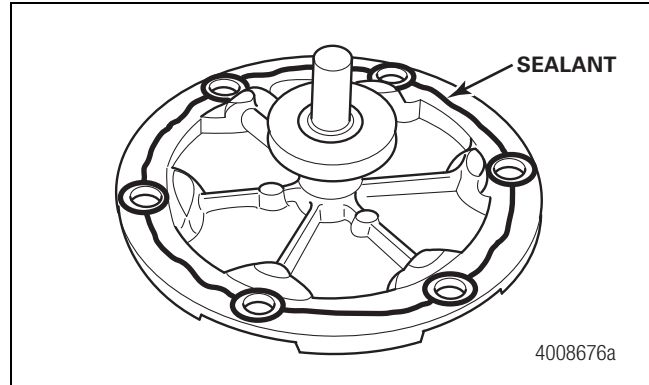

Figure 12.18
7. Apply a continuous 0.24-inch (6 mm) bead of Meritor specification 2297-H-7054, Loctite® 5699 RTV sealant to the inner face of the cover plate. Figure 12.18.